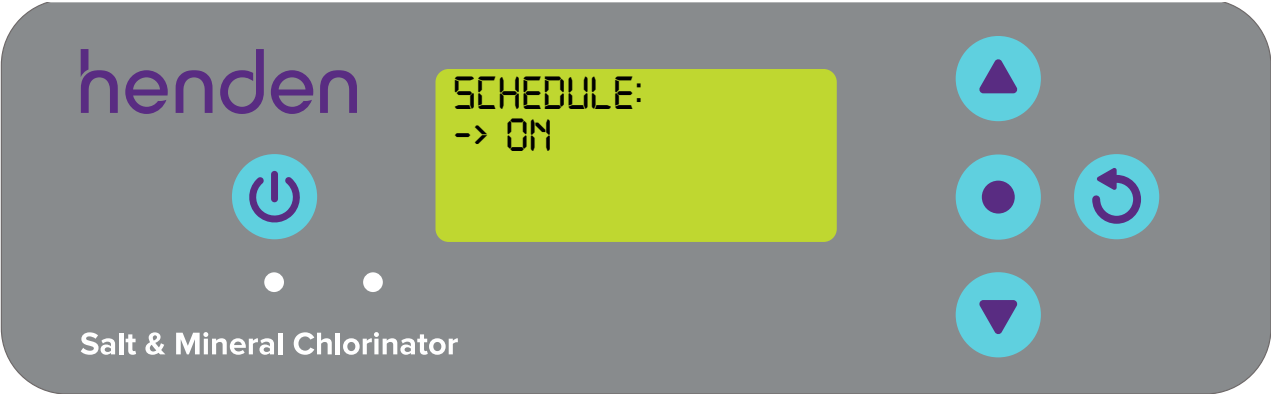

Figure 9.24
- Use the ▲▼ menu up/down buttons to toggle ON/OFF as required (refer Figure 9.24). Then press the ● menu/setting select button to confirm.